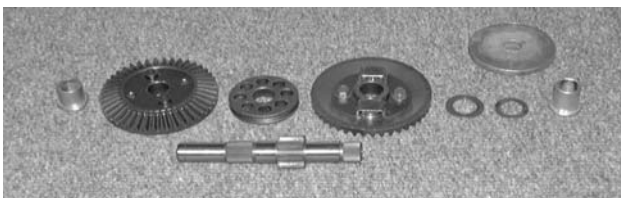

Figure 8-64.
13. Slide the thrust washer, bevel gear with large inner diameter hole, clutch collar, bevel gear with small inner diameter hole, flat washer, and short flange bearing over the long end of the drive shaft. See Figure 8-64.